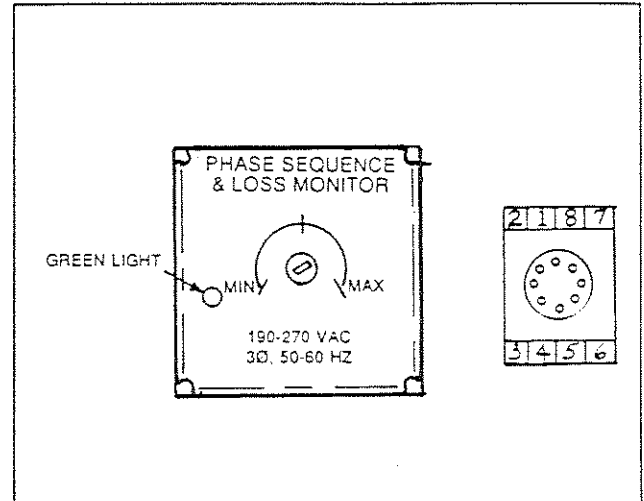

Figure 12. 3-Phase Power Monitor and Socket
2. Check for correct line-to-line (phase-to-phase) voltage across terminals 3 and 4; across 4 and 5; and across 5 and 3 of the power monitor's socket (see Figure 12).